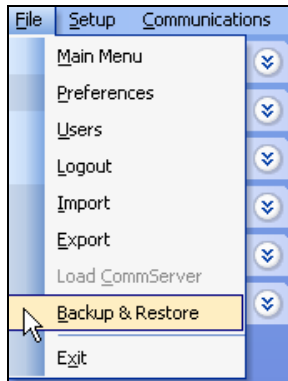

Figure 31.0.1
1. In the toolbar at the top of the screen select **File** and then scroll down to **Backup & Restore** and click on it (Figure 31.0.1).